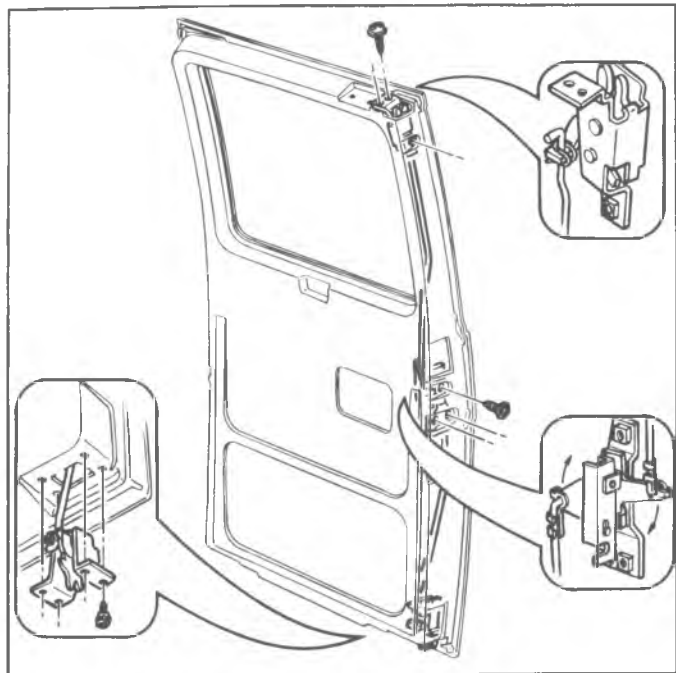

Fig. 32G—Remote Control and Latch
2. Disengage upper and lower latch rods from control by removing retaining clips. See figure 32G.
2. Disengage rod from remote control assembly. See figure 32G.